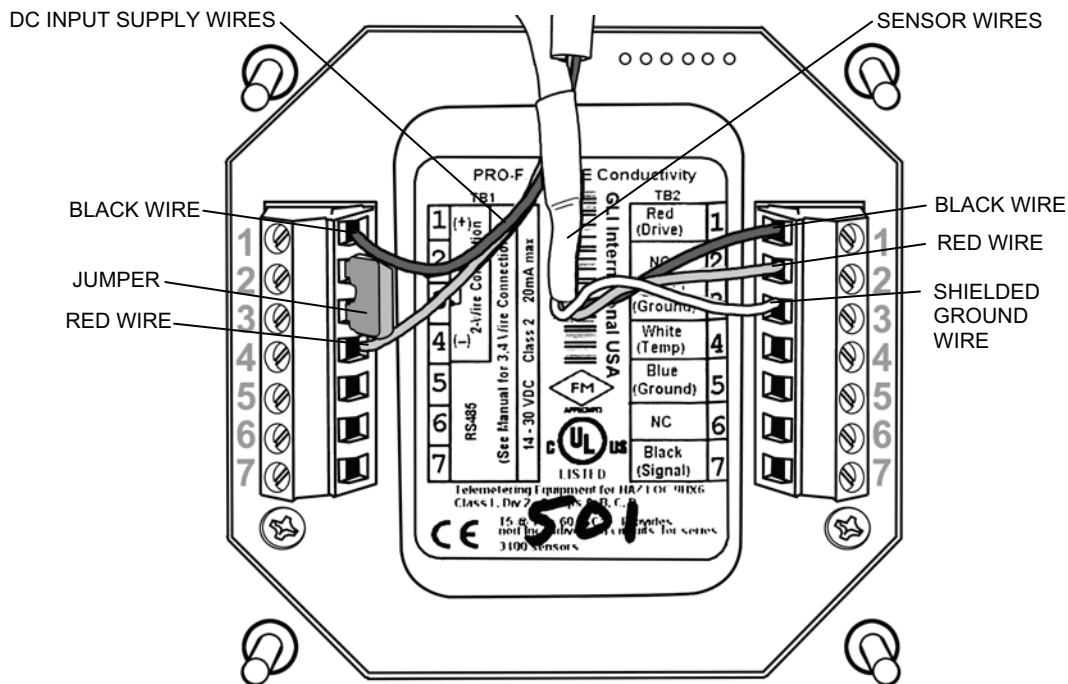

Figure 2. Flow Transmitter Wiring Terminal Designations.
- b. Disconnect the DC input supply cable from the back of the transmitter (see Figure 2).
- c. Disconnect the sensor cable from the back of the transmitter (see Figure 2).
2. Install the new flow transmitter to the instrument/solenoid panel as follows (see Figure 2):